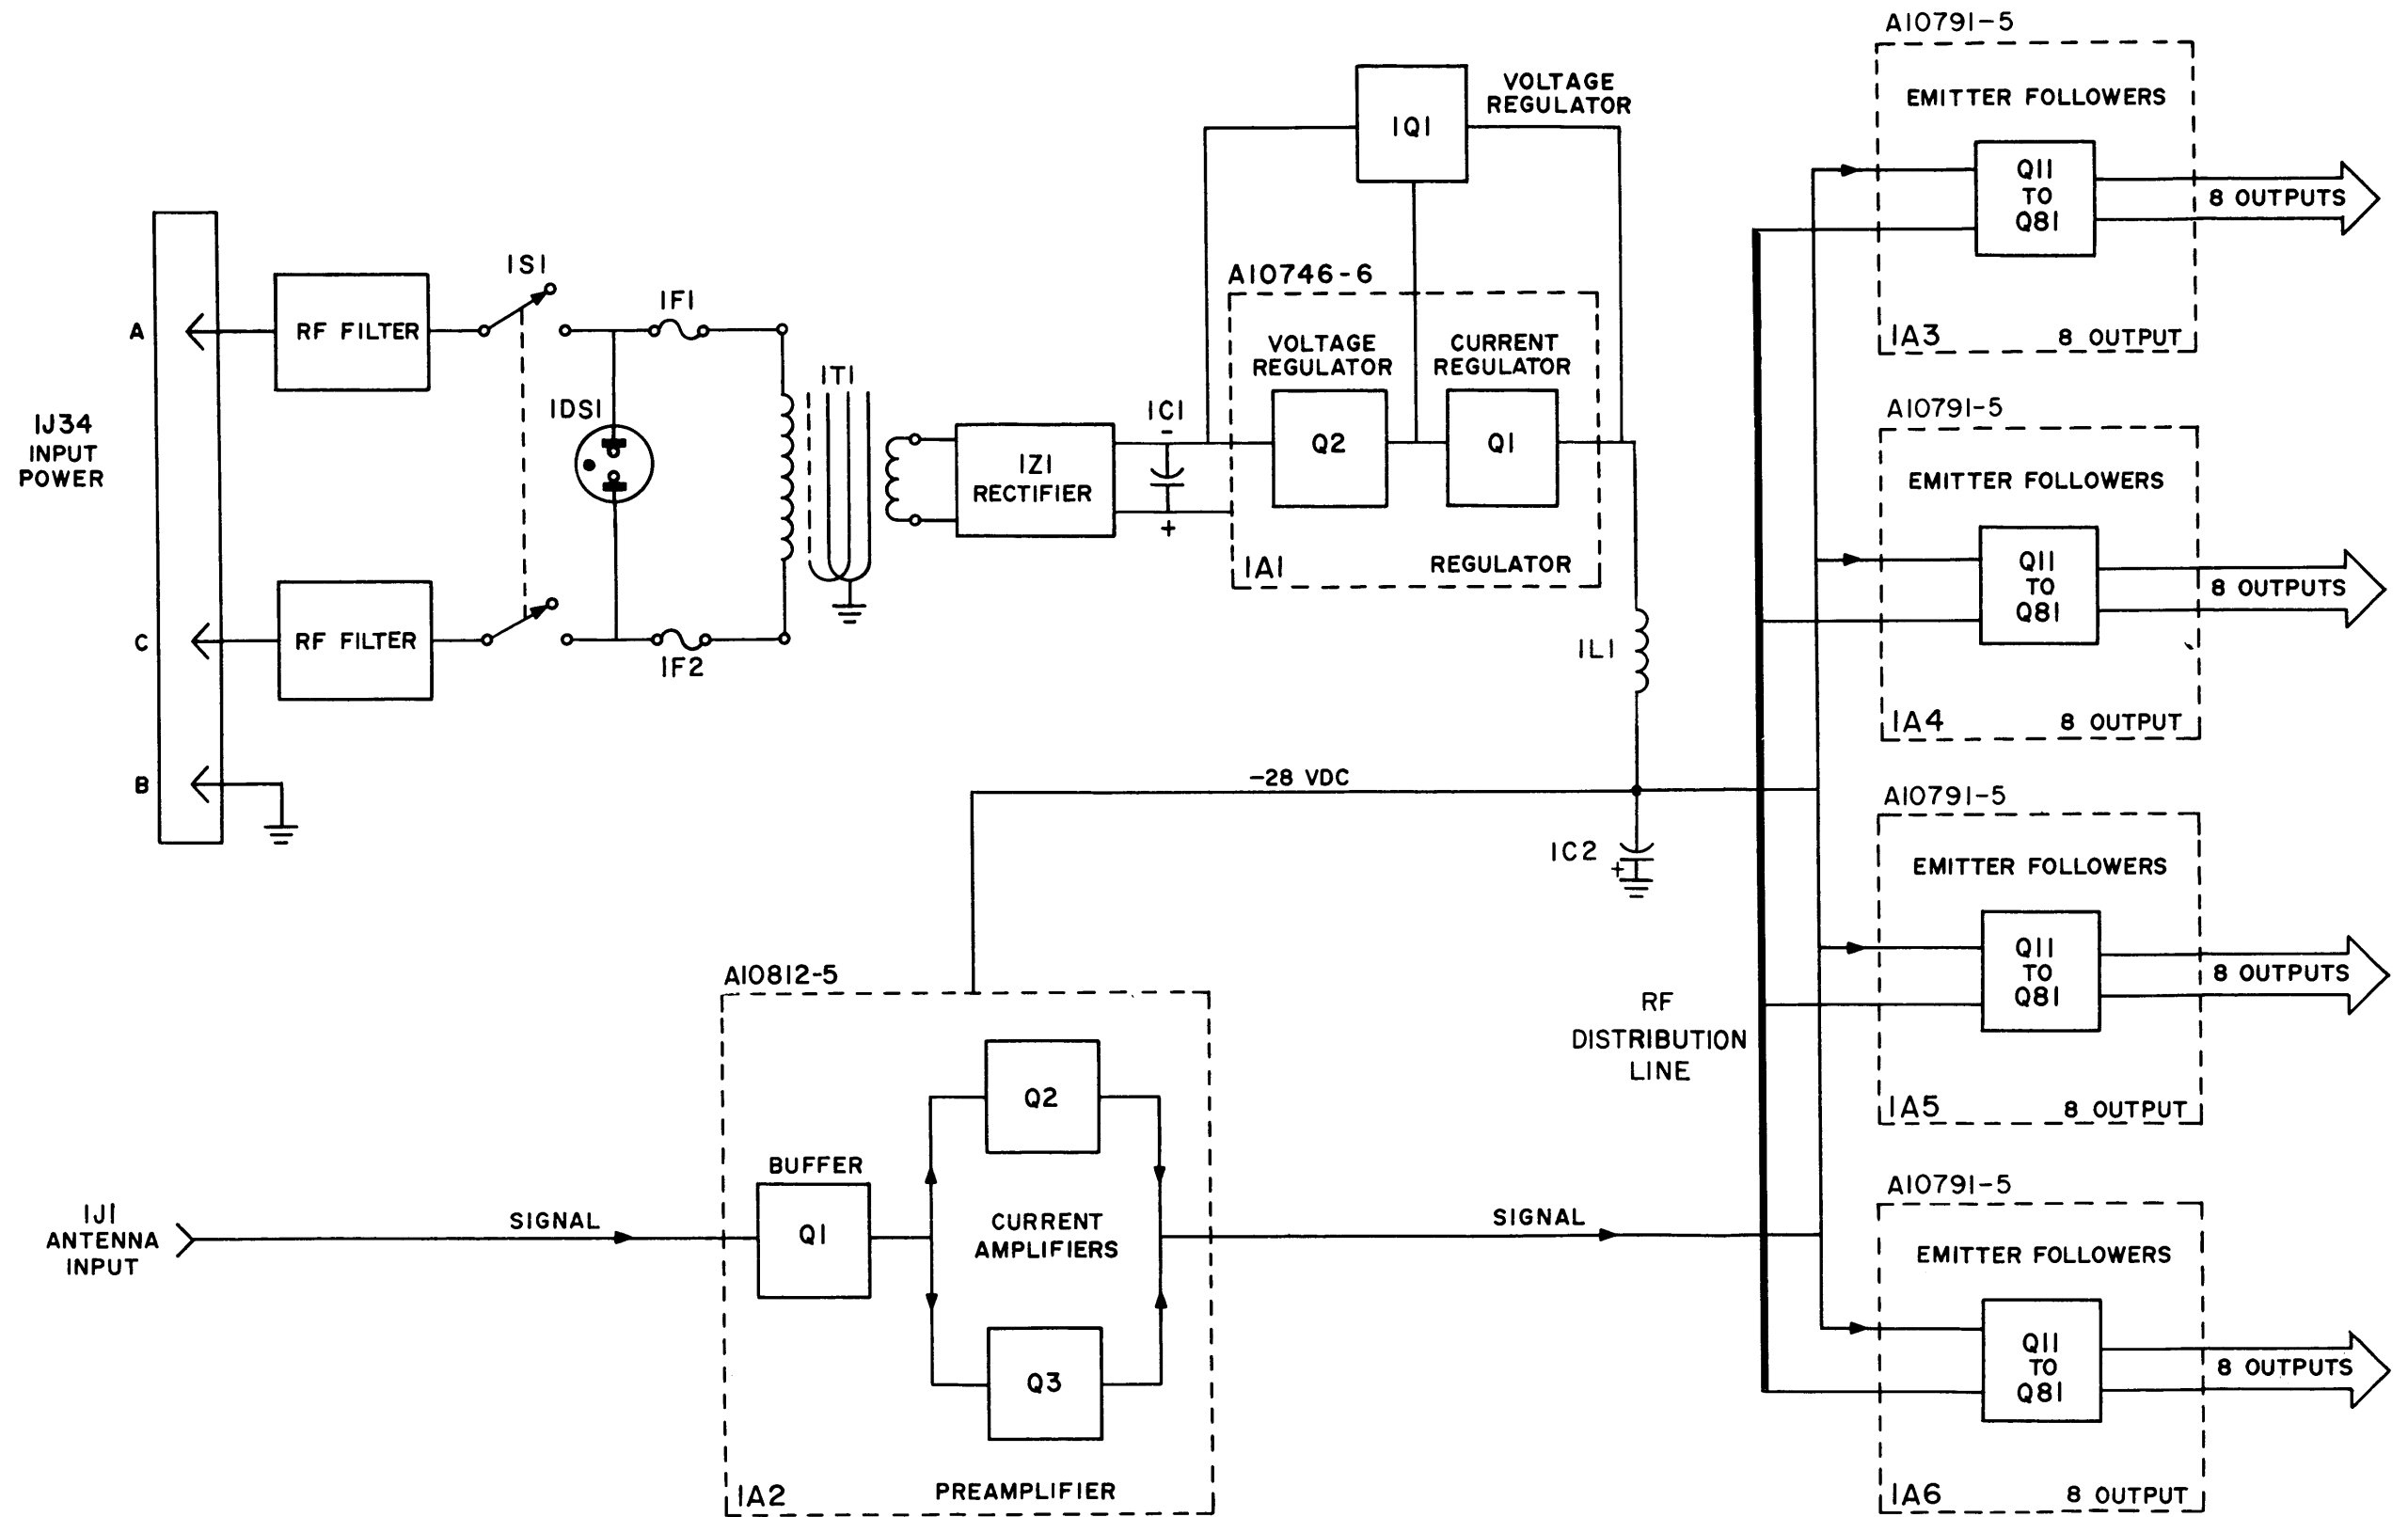

Figure 4-1 System Block Diagram LMC-32
(1) The Thirty-Two Output Low Frequency Antenna Multicoupler is a broadband antenna distribution system, designed to couple one low frequency antenna to the antenna inputs of up to thirty-two low frequency communications receivers.
(2) Both the input and output impedance of the LMC-32 coupler are nominally 75 ohms, with a voltage standing-wave ratio characteristic better than 1.5 to 1 over the frequency range of 10KHz to 2MHz.
(3) The LMC-32 coupler provides a nominal insertion gain of 2 decibels from the antenna input to each connected receiver. The coupler is designed to ensure minimum noise generation, and to provide a high degree of intermodulation rejection and isolation between the connected receivers. The rejection and isolation figures for this equipment are stated in Paragraph 1-4.
(4) The LMC-32 multicoupler consists of three major sections, as shown in Figure 4-1 System Block Diagram, LMC-32, and as described in the following paragraphs. These sections consist of the preamplifier assembly (1A2), the output buffer assemblies (1A3, 1A4, 1A5 and 1A6) and the regulated power supply (1A1).